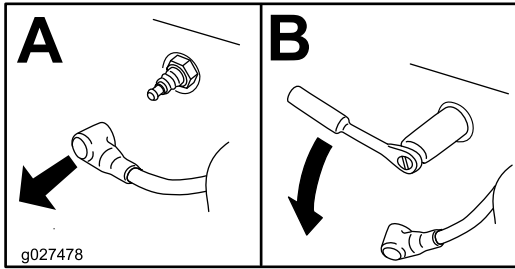

Figure 31
3. Remove the spark plugs as shown in (Figure 31).